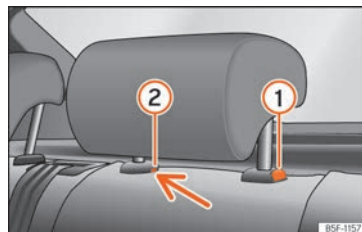

Fig. 115 Rear headrest: removal.
- Press button » Fig. 115 ①, while simultaneously pressing on the security hole ② with a